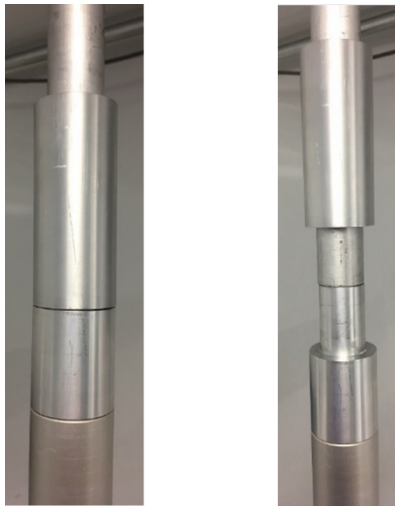

Figure 12. Slip coupler in the normal position and lifted vertically.
1. Holding the downtube above the slip coupler with one hand, lift the slip coupler with your other hand from its current position to a height just high enough so that the slip coupler is no longer touching the aluminum downtube below (Figure 12). The downtube above the slip coupler should be held in a consistent vertical position so that the seal between the downtube and roof flange is maintained.